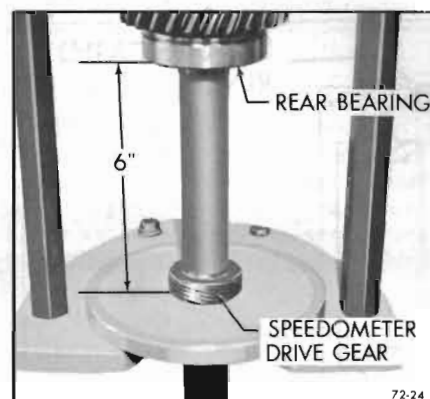

Figure 72-24—Installing Speedometer Drive Gear
4. Install speedometer drive gear onto mainshaft. Using Press Plate J-8609, press gear until rear face of gear is 6" from rear bearing. See Figure 72-24.